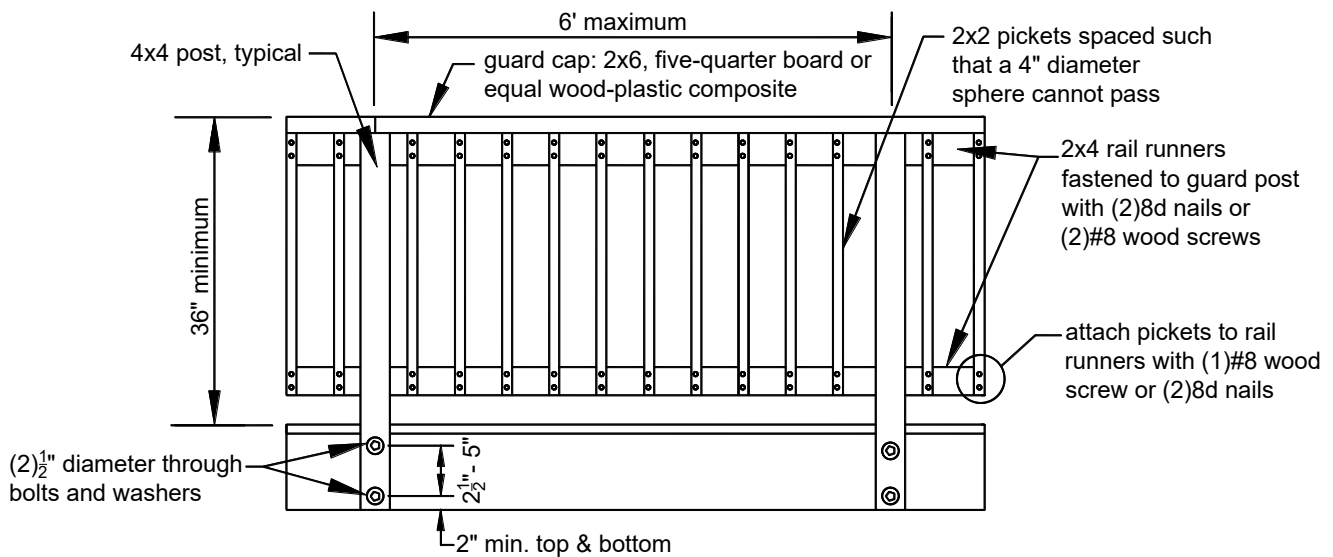

FIGURE 29: GUARDS
**Wood-plastic composites.** Wood-plastic composites of equal dimension and complying with the criteria noted on Page 3 may be substituted for the guard rail-cap and infill elements shown in FIGURE 29 provided the manufacturer’s performance criteria specifically permit such use.